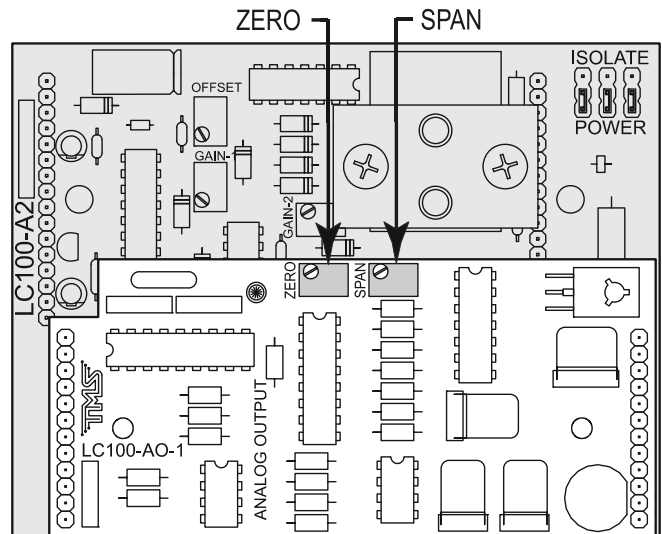

Figure 13 LC100-AO-1 Calibration Potentiometers
2. Enter the LevelCom 100 program. Access the Calibrate menu and select "AN OUT". Press **ENTER**. "ZERO" will be displayed. Press **ENTER**. The meter should read 4 mA. If it doesn't, adjust the **ZERO** potentiometer on the analog output board until the meter reads 4 mA. (Refer to Figure 13 for the location of the ZERO potentiometer)
3. Press the **UP** or **DOWN** keys to scroll to "SPAN" and press **ENTER**. The meter should read 20mA. If it doesn't, adjust the **SPAN** potentiometer until the meter reads 20 mA. (Refer to Figure 13 for the location of the SPAN potentiometer)
If your machine has the LC100-A2 or -A3 sensor input circuit board, the analog output is contained in a small circuit board attached to the sensor input board. There is an LED on the analog output board next to the ZERO potentiometer that flashes to indicate that the board is functioning. Refer to Figure 13 for location of this LED. If this LED is not flashing the analog output module has probably failed, and should be replaced.